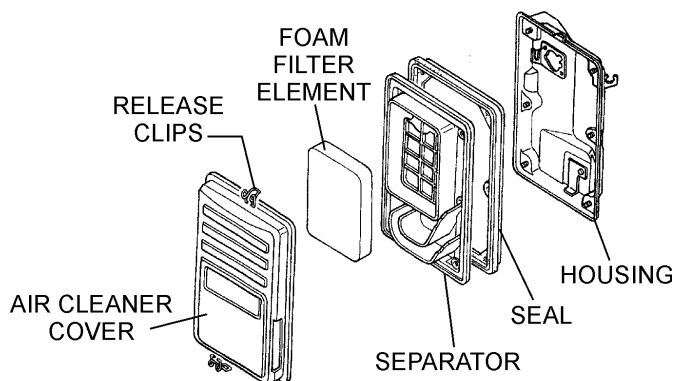

Figure 33. Engine Air Cleaner
1. Remove the air cleaner cover and foam filter element as shown in Figure 33.